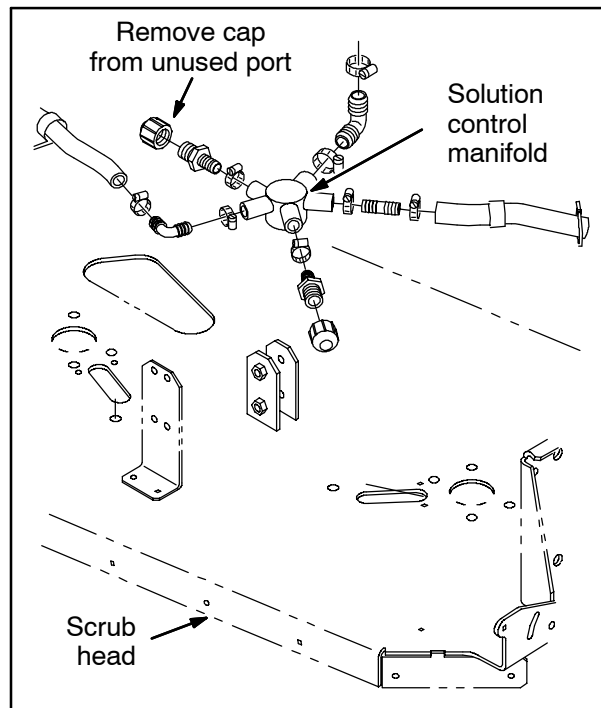

FIG. 4
4. Remove the plug from the unused port on the solution control manifold. Refer to Fig. 4.
10. Route the hose labeled DISP to the unused port on the solution control manifold and use a hose clamp to secure the hose to the manifold. Refer to Fig. 4.